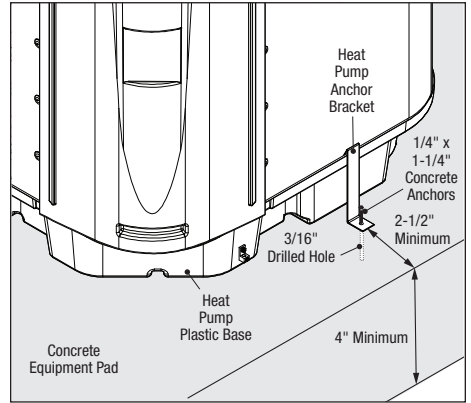

Figure 2. Anchor Clamp Installation
3. Fit the hook of each clamp over the lip on the base panel of the heat pump. The hook should fit between the lip of the base panel and the evaporator coil guard (see *Figure 2*).
7. Position the anchor clamps so that the holes in the clamps are over the bolt anchors. Be sure that the clamp hooks are over the lip of the heat pump base (see *Figure 2*).